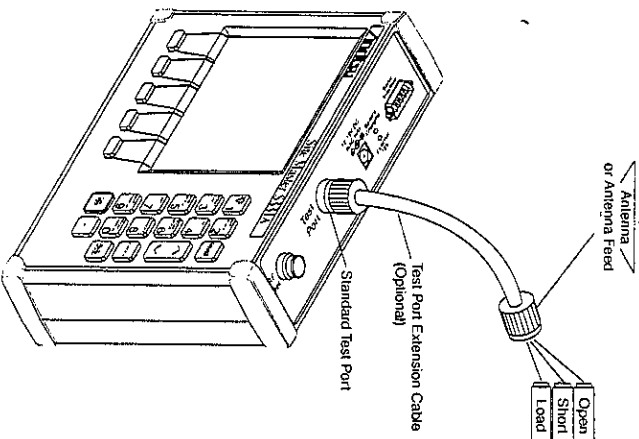

Figure 2-9. Measurement/Calibration Test Setup
"Connect LOAD, Press ENTER" instructions that appear in the message area. Connect the respective Open, Short, and Load component to the end of the Test Port Extension Cable (Figure 2-9) prior to pressing **ENTER**.
- Step 7. Perform a measurement calibration, using the **START CAL** key. Select **CAL A** or **CAL B**. Follow the ensuing "Connect **OPEN**, Press **ENTER**," "Connect **SHORT**, Press **ENTER**," and "Connect **LOAD**, Press **ENTER**" instructions that appear in the message area. Connect the respective **Open**, **Short**, and **Load** component to the end of the Test Port Extension Cable (Figure 2-9, page 2-27) prior to pressing **ENTER**.